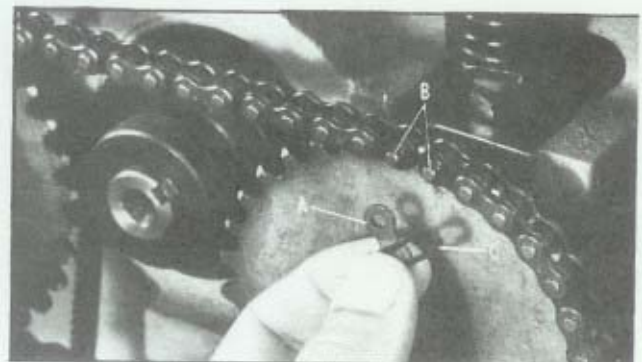

Fig. 30.
If it becomes necessary to replace the chain due to wear, we recommend that both the chains and sprockets be replaced. When assembling a new chain, place it around the steel sprockets of the in-feed and out-feed rolls and connect its two ends together by installing the connecting link (A) Fig. 30, over the projecting ends (B) of the chain. Secure the connecting link (A) in place with the spring clip (C). The other chain is assembled in the same manner.